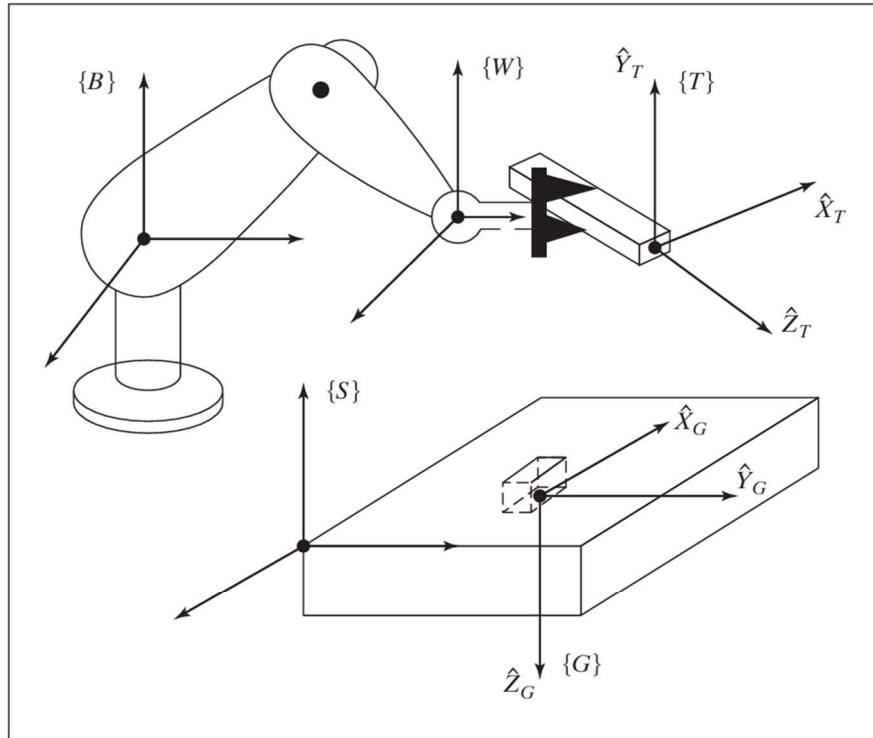

FIGURE 3.31: Determination of the tool frame (Exercise 3.8).
**3.8** [13] In Fig. 3.31, the location of the tool,  ${}^W_T T$ , is not accurately known. Using force control, the robot feels around with the tool tip until it inserts it into the